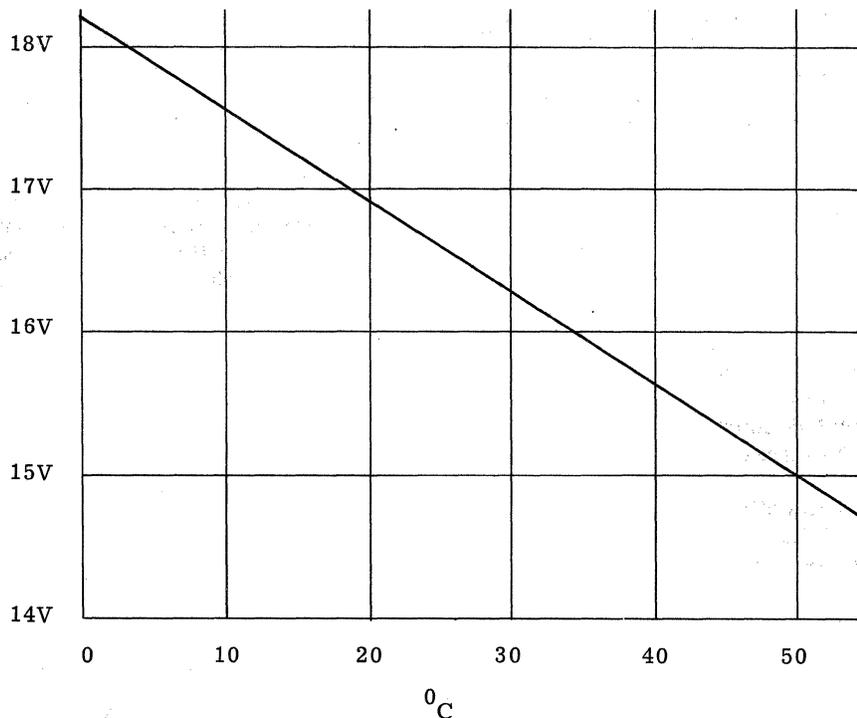

Fig. THEORY.3 16V Supplies, Voltage vs. Temperature
- Outputs - +5 VDC @ 24 amps. max. +16VDC nominal @ 3 amps. max. - 16V nominal @ 3 amps. max. When the supply serves Core Memory modules, the 16V outputs are temperature programmed as indicated on Fig. THEORY.3.
Inputs TA and TB to the supply are connected to the temperature sensor terminals on the chassis served by the supply. If the chassis contain Core Memory modules these terminals are connected to a thermistor on the memory PWB. If the supply does not serve core, a 1000 ohm resistor is connected across the terminals. If the thermistor is connected, the 16V outputs are temperature programmed as indicated by Fig. THEORY.3. If the 1K resistor is connected, the supplies are adjusted to and remain at 16V $\pm 1\%$. The thermistor changes the output voltage by changing the operating point of the differential amplifier. The -16V supply tracks the output of the +16V supply.